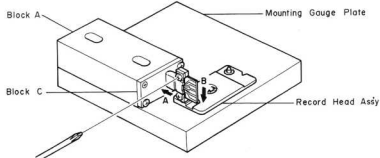

Fig. 5.16
- (5) Remove the Block B from the Mounting Gauge Plate.
- (6) As shown in the Fig. 5.16, mount the R-54 record head assembly onto the Mounting Gauge Plate, then check the location of the R-54 record head surface. (If record head contacts to the Block C, loosen 2 pcs. of screws that assembled record head and R-54 record head assembly, then place the R-54 record head assembly onto the Plate.)
- (7) Remove the R-54 record head assembly from the Mounting Gauge Plate.
- (8) Readjustment of Record Head Mounting Gauge M-9048 (DA09048A)
- (9) Remove the Block B from the Mounting Gauge Plate.
- (10) Mount the R-54 record head assembly onto the Mounting Gauge Plate.
- (11) As shown in the Fig. 5.16, loosen the R-54 record head with 2 pcs. of screws onto the record head plate. As the location of the Block A is secured by the item (8) - (c), push the record head to the directions A and B, then tighten 2 pcs. of screws.
- (12) Check to insure freedom from gap between the Block C and record head surface, then tight the 2 pcs. of screws on the record head plate with lock tight paint.
- (13) Assemble the record head assembly to the head mount base assembly.
- (14) Assemble the head mount base assembly to the mechanism assembly.
- (15) Check the record head stroke.